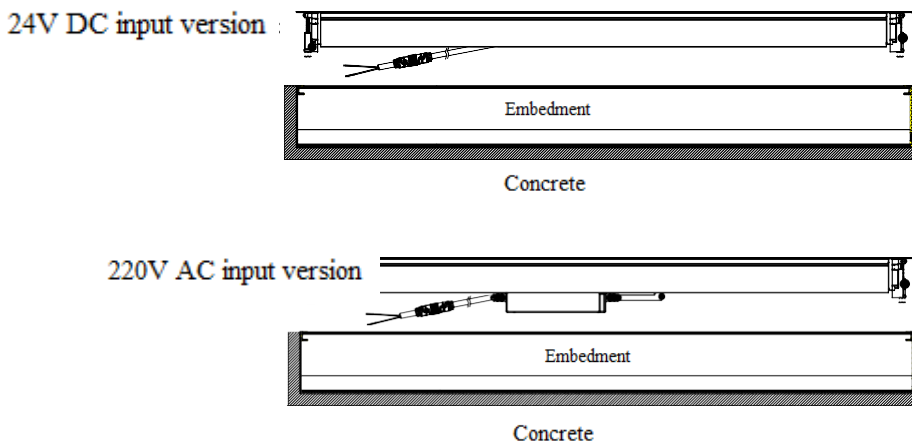

Figure 5
2. Connect the light fixture wires to the corresponding interface of the waterproof box (Figure 5).